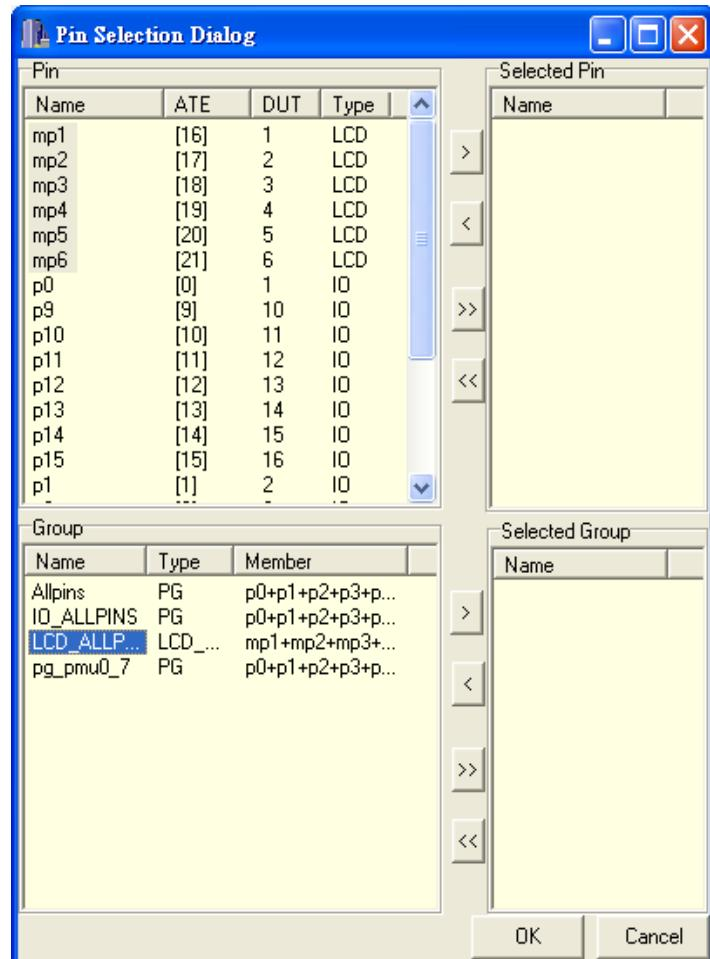

Figure 19-7 Select Pin(s) by Clicking Group
- Click a group, the pin member will be selected. (See Figure 19-7)